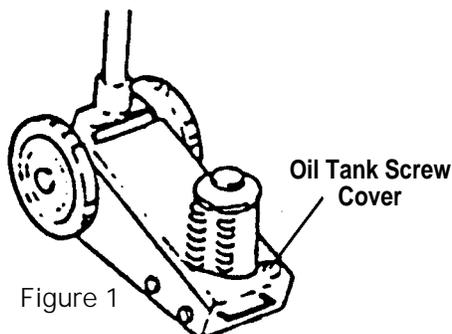

Figure 1
1. Before using the under axle jack, remove the oil tank screw cover, and install the breathing screw provided. See Figure 1.